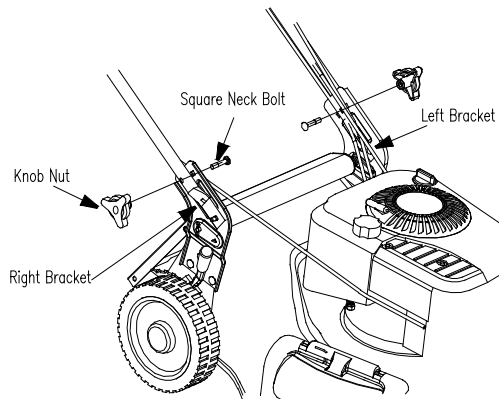

Fig. 16
- Move lower handle up and down around the rear cover rod to adjust the height. See Fig. 16.